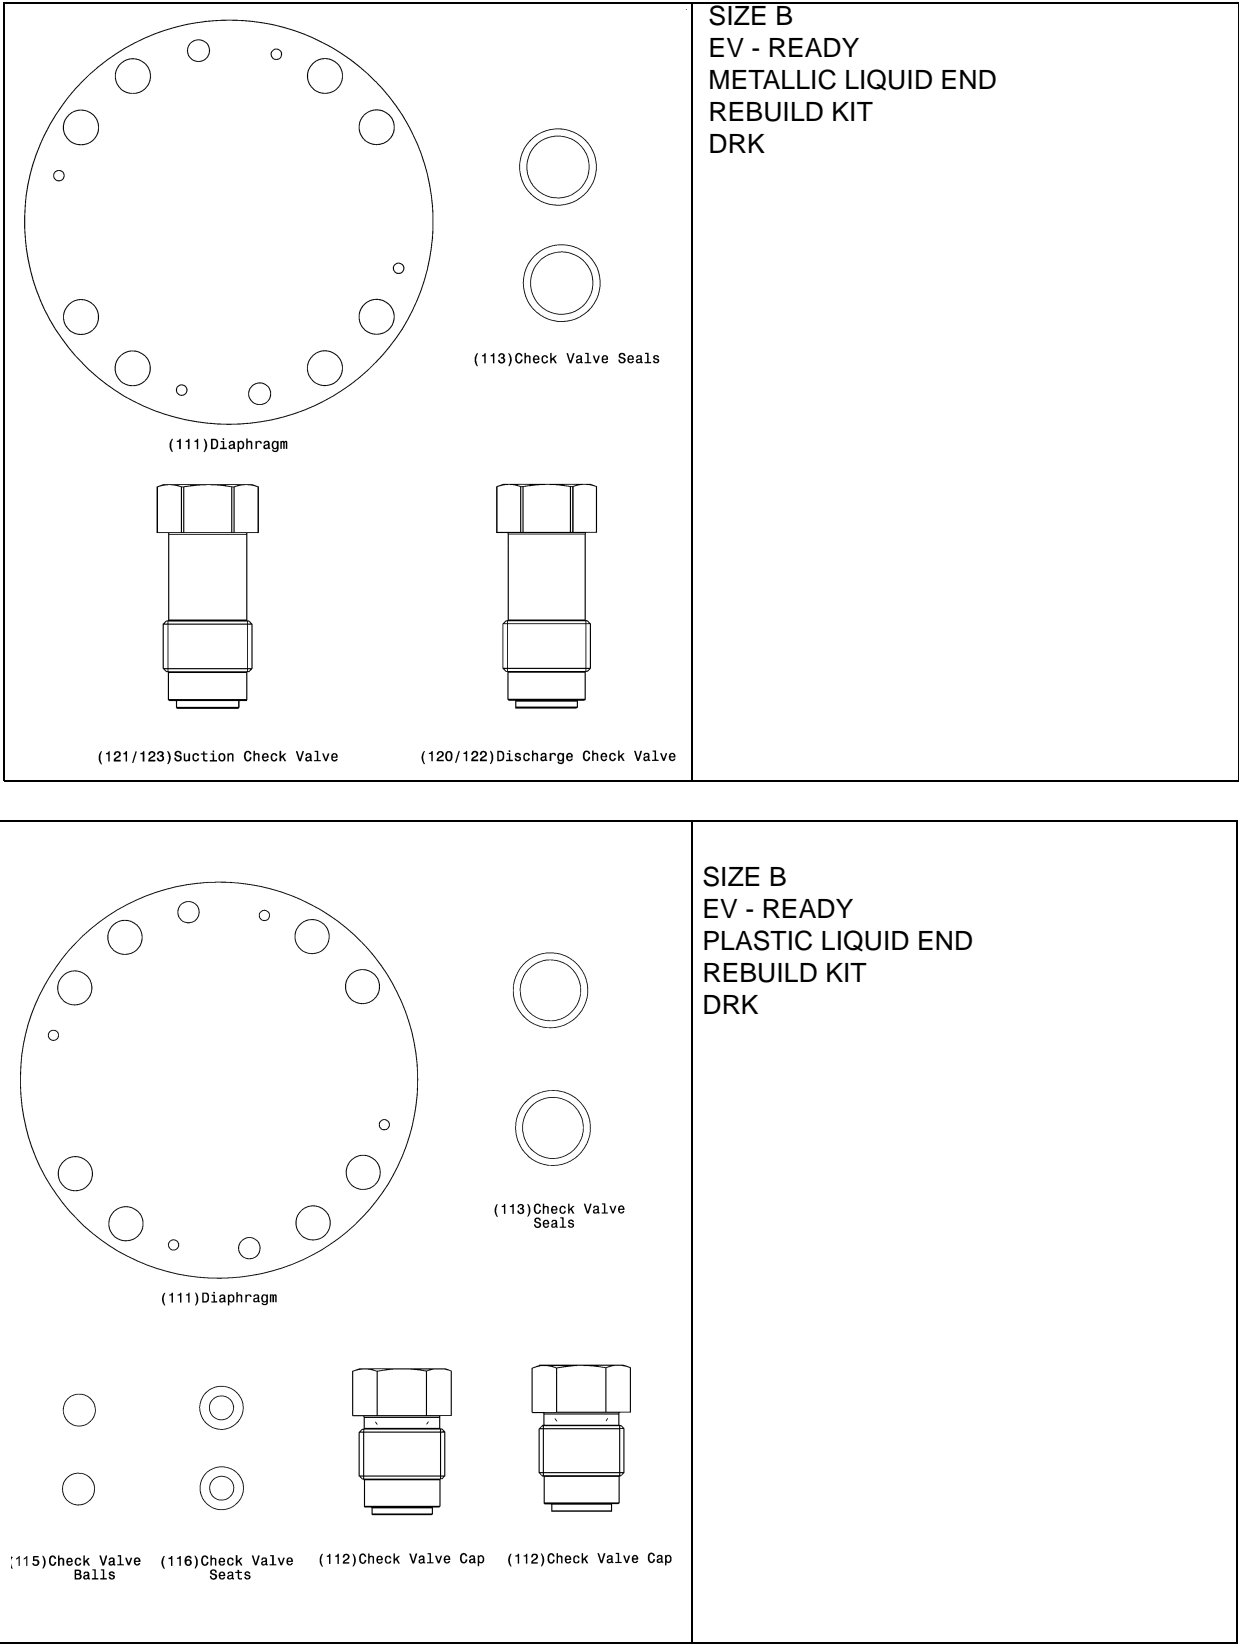

Figure 47. Metallic/Plastic Rebuild Kit, Size B.
6.13 METALLIC/PLASTIC REBUILD KITS, SIZE B (FIGURE 47)
LIQUID END REBUILD KITS SIZE B (SEE FIGURE 47)
PLUNGER BODY REBUILD KITS EV1 SIZE B (SEE FIGURE 47)(SEE FIGURES 45, 46, 53, & 54)